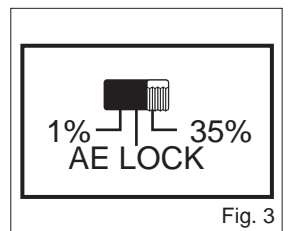

Fig. 3
- (4) Select either spot or average exposure measurement. (See IV (8).) (See Fig. 3.)